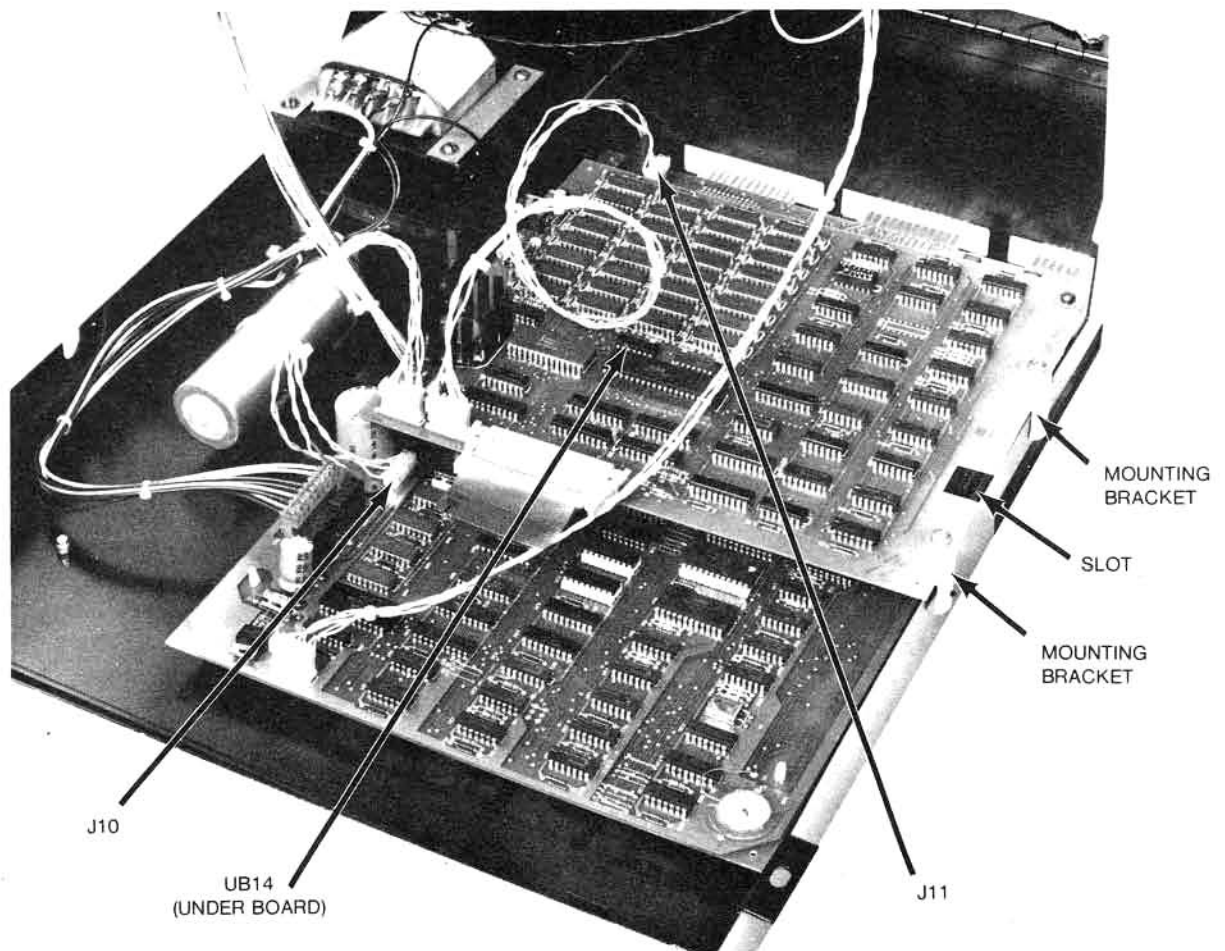

Figure 2-1. Expansion Memory Board Installation
Referring to Figure 2-1, use the following procedure to install the Expansion Memory Board:
7. Position the Expansion Memory Board in the CBM 8032 using the four mounting brackets on the Expansion Memory Board. See figure 2-1 for placement.